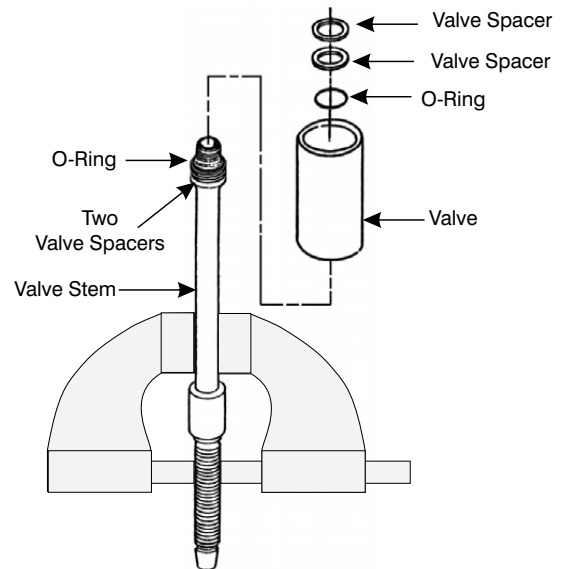

Figure 8-23. Remove Valve and the upper Spacers, and O-ring.
6. Pull the Valve (7) up and off the Valve Stem (8). As the Valve leaves the Stem, it will strip the upper Spacers (5) and O-ring (6) from the Valve Stem. Refer to Figure 8-23.